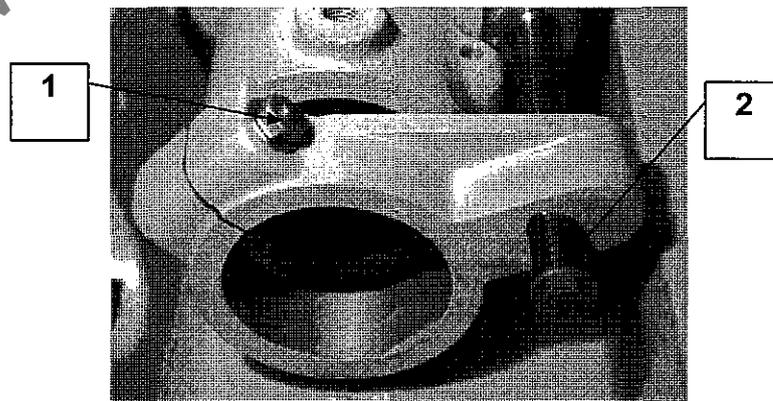

Figure 7.3.9
- 10 Remove the wedges from the clamp housing (2) and the axial adjustment clamp ring and tighten spindle barrel clamp (1) and the axial clamp.
7.3.9 Replace Fence/Near Side Head Spindle (Figure 7.3.9)